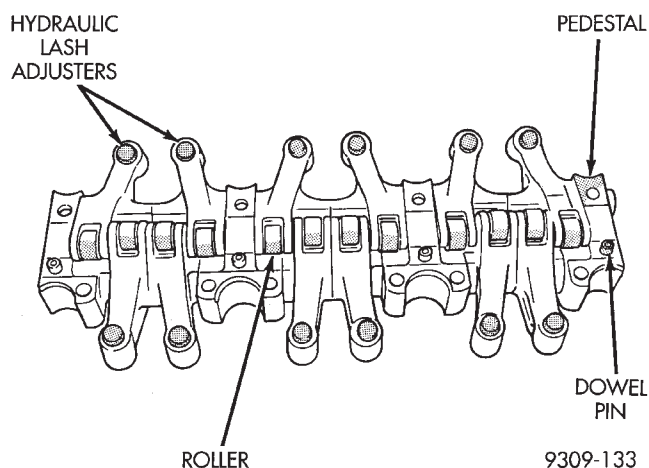

Fig. 9 Assemble Rocker Arm and Shafts—Assembly
(1) Install the rocker arms, and pedestals onto the shaft.
(2) Install dowel pins in their proper locations (Fig. 9). Dowel pins pass through the pedestal into the rocker shafts. Dowel pins should be press in until they bottom out in the pedestal.
(1) Rotate camshafts to the position shown in (Fig. ____). With the camshafts in these positions the lobes are in a neutral position (no load to the valve). This will allow the rocker arm shaft assembly to be tightened into position without any or no load on it.
(2) Install the rocker arm shaft assembly making sure that the identification marks face toward the front of engine .
(3) Install oil feed bolt in the into correct location on the rocker shaft retainer (Figs. 9 and 10). Tighten bolts in sequence to 31 N